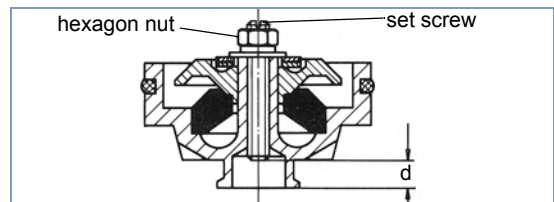

Fig. 4 Dimension d (Device with one rubber spring)
- Adjust dimension $d = C + 0,8$ mm in the graduating piston by turning the set screw (see fig. 4).
- Counter set screw by turning the hexagon nut (see fig. 4).